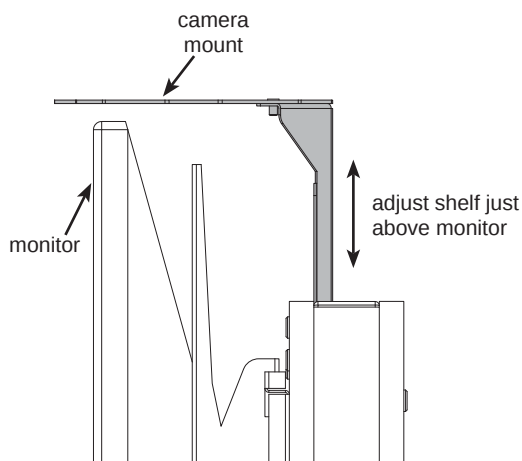

Figure 10
- J. Adjust the camera mount to sit just above the installed monitor then tighten the shelf fasteners securely. **Figure 10**.